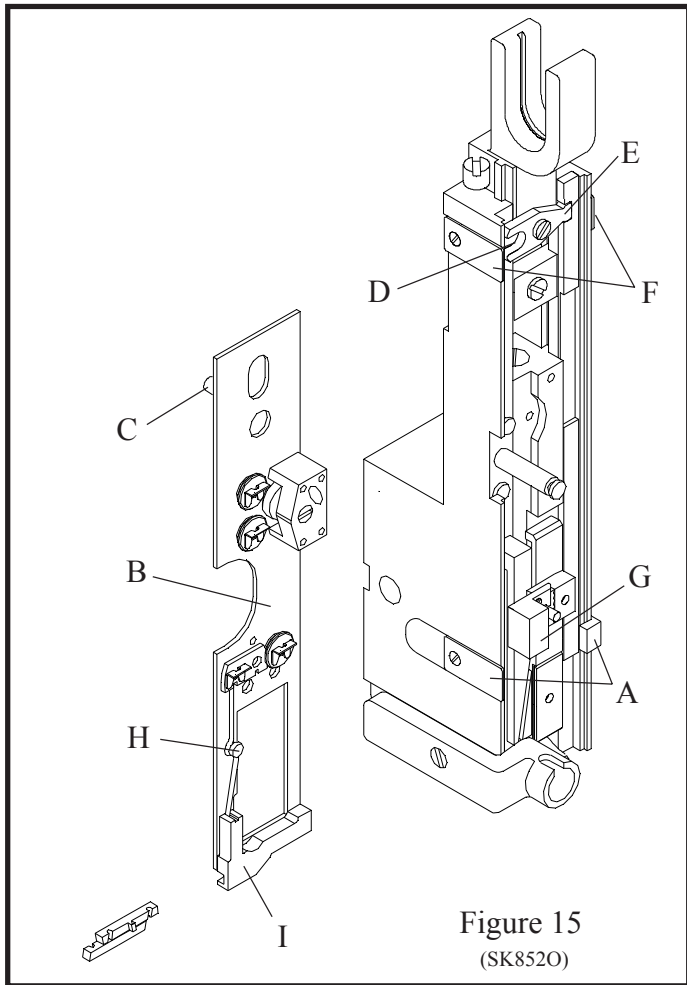

Figure 15
NOTE: (See fig. 15)
7. Loosen the two face plate retaining clips (Index A, Figure 15) and rotate them downward.